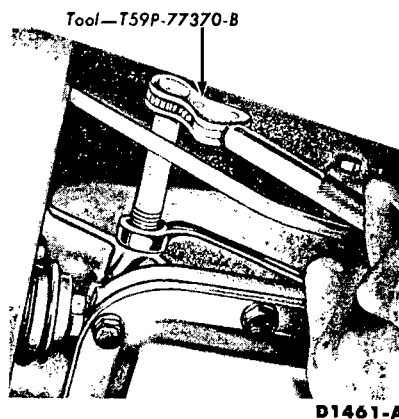

FIG. 27—Low-Reverse Band Adjustment
2. Install a new locknut on the adjusting screw. With the tools shown in Fig. 27, tighten the adjusting screw until the tool handle clicks. The tool is a preset torque wrench which clicks and overruns when the torque on the adjusting screw reaches 10 ft-lbs.